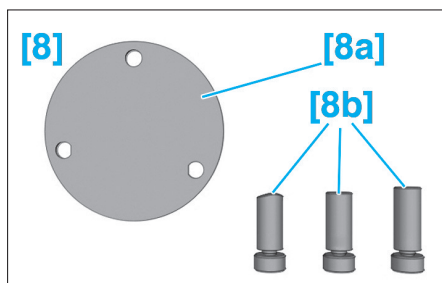

Fig. 30
- [8]. Plaque support pivot (Fig.30).